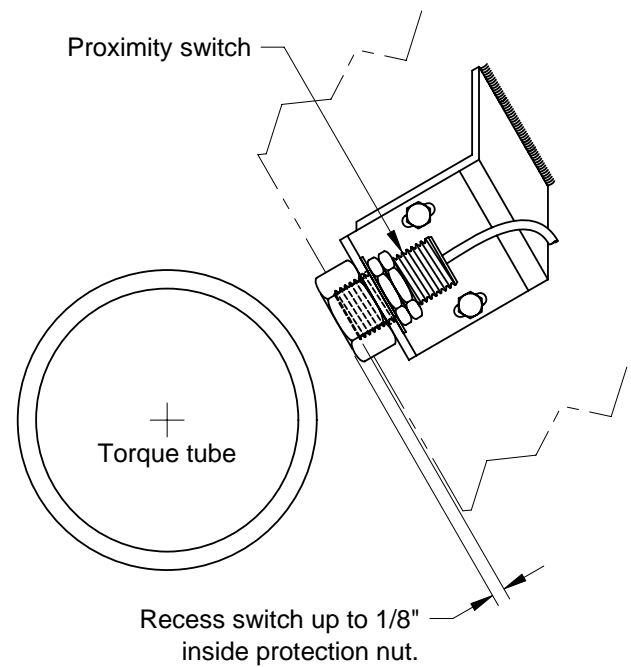

Figure 9-E
4. Weld bracket to the truck structure and set a 1" gap between the nut and torque tube, see Figure 9-D.